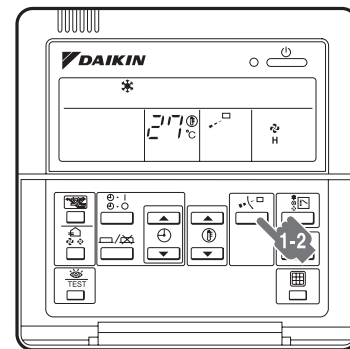

figure 6
**(Refer to figure 6) (only for FXC, FXF, FXH, FXK, FXA)**